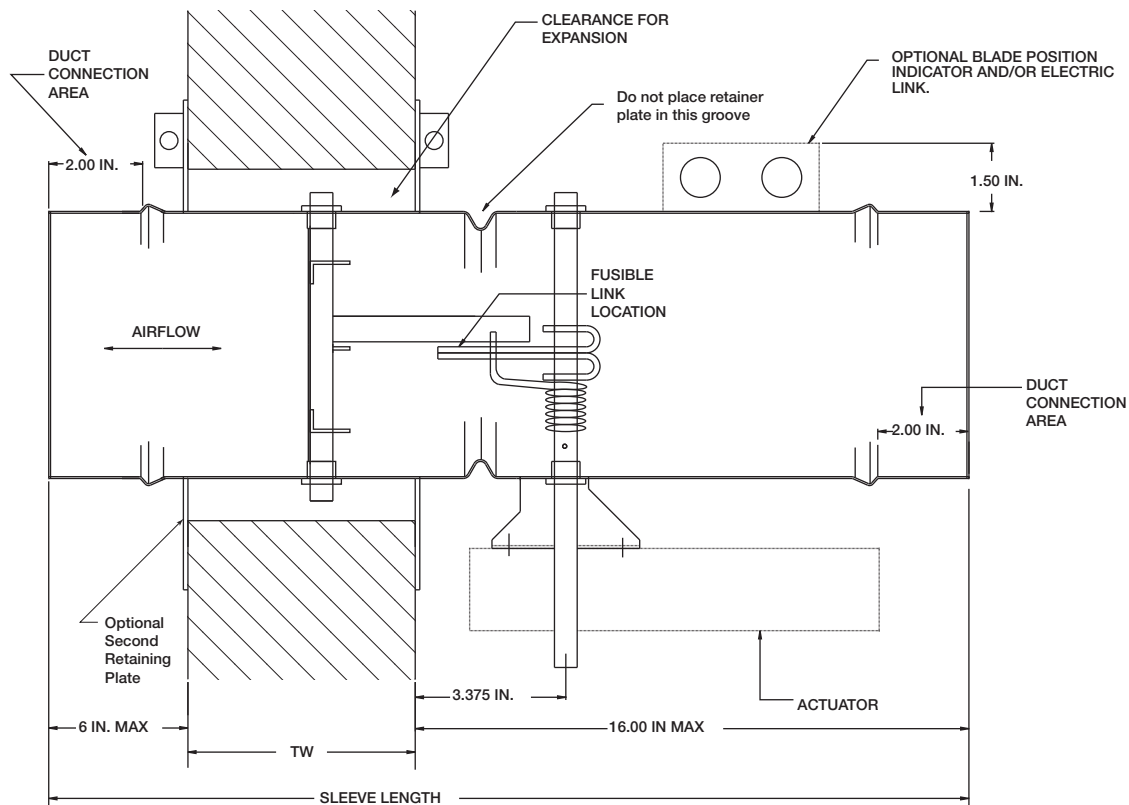

Fig. 1
Insert the damper assembly into the prepared opening, to appropriate depth (see Fig. 1).
- Position the retaining plate between the blade axle and the actuator shaft as shown in **Figure 1**. Do not place the retaining plate in the groove. **IMPORTANT:** The clamping mechanism should face away from the wall/floor.